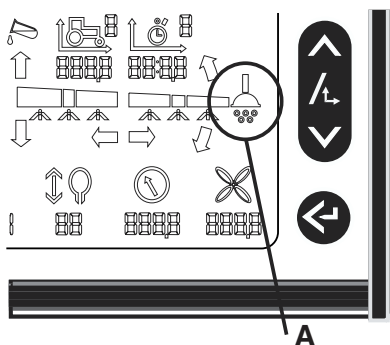

Fig 36
- 2 Check that the Pilot display shows that the Foam Marker is OFF (A Fig 36). Connect power supply.